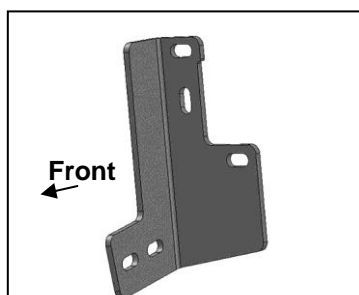
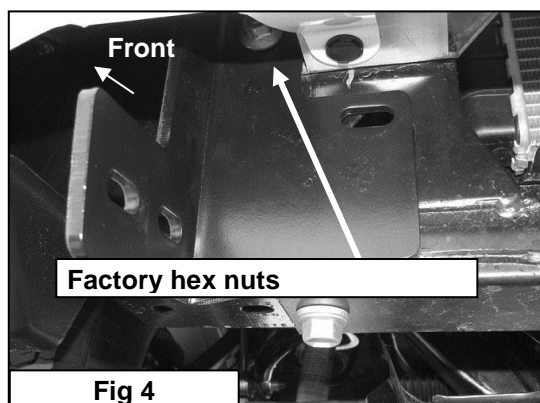

Fig 3 Passenger/right frame Bracket
Fig 4
3. Select the passenger side frame mounting bracket, **(Figure 3)**. Slide the Bracket over the (2) threaded studs. Secure the Bracket to the studs with the factory hex nuts, **(Figures 4 & 9)**. Leave hardware loose at this time.